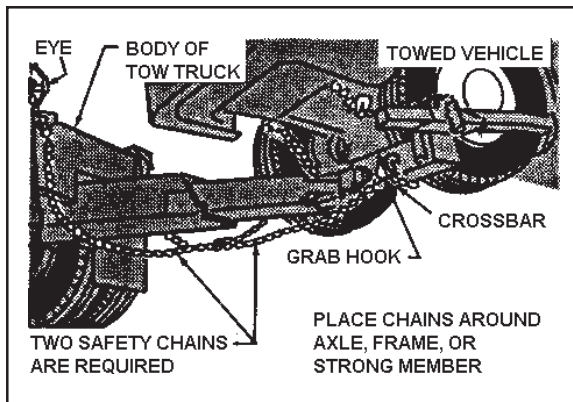

Figure 4-8.
15. Connect two safety chains from the eyes in the body of the tow truck to the axle or frame of the towed vehicle. Be sure to cross the chains and leave only enough slack in them to permit free turning of the vehicles. Near the middle of each chain, attach it to the grab hooks on the wheel grids. Make sure there is enough slack in the aft ends of the chains so the suspension of the vehicle can operate freely. (See Figure 4-8.)